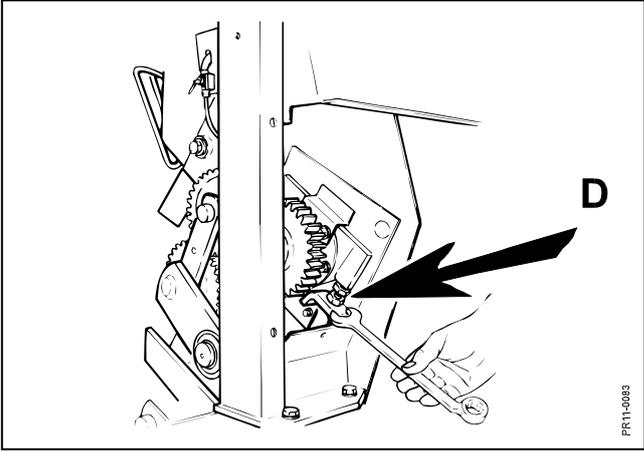

Fig. 3-29
**Fig. 3-29** Adjustment of the distance, if required, is made at the screw **D** which is equipped with a counter nut that must be retightened properly after the adjustment. Adjustment is made at both sides of the machine.